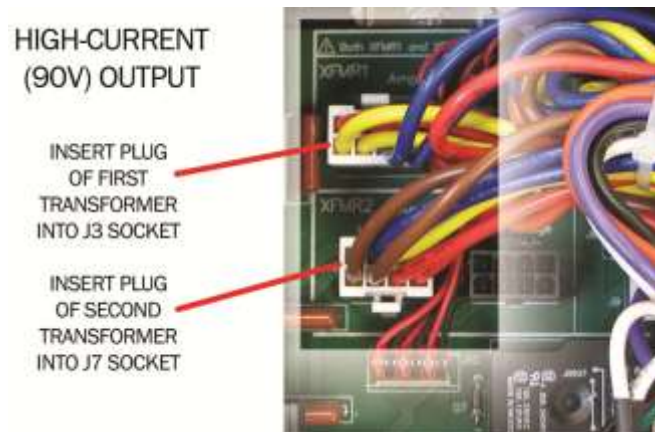

Figure 4.12– Location of Amplifier Voltage Output Sockets
2. For High Current (90V) Output (see **Figure 4.12**).